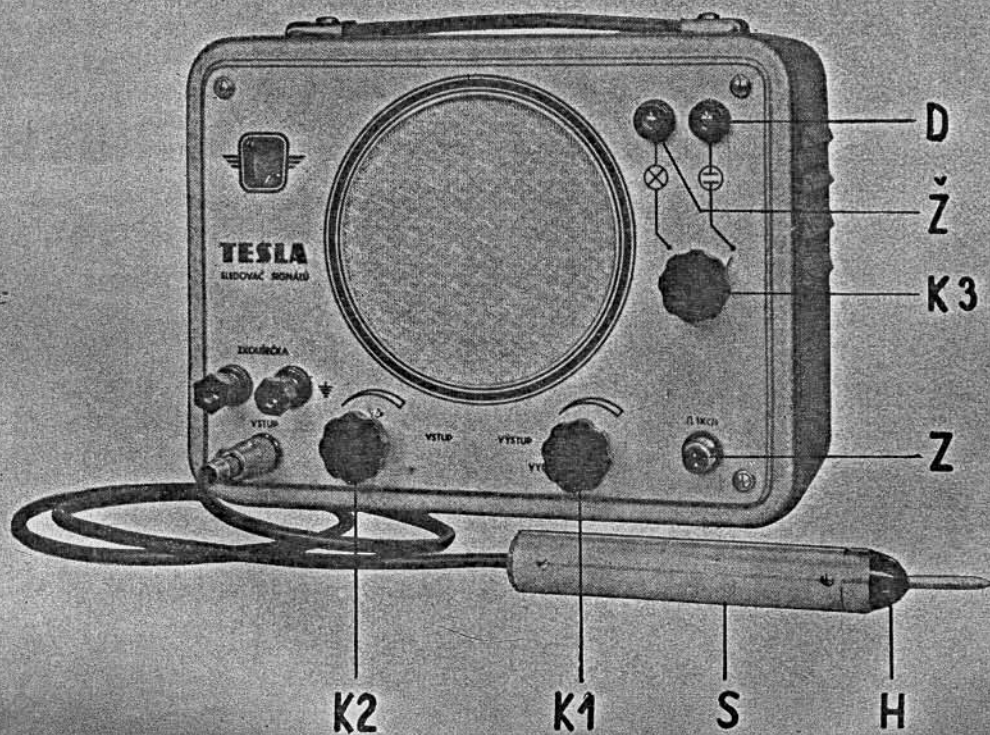

Fig. 1
- a) A three-stage A. F. amplifier equipped with an input probe, a visual indicator and a loudspeaker. The amplifier is fitted with the electronic tubes 6CC41, 6L31 and a visual indicator EM81. The sensitivity is continuously controllable with the input divider K2 (R6). The input probe of the signal tracer can be switched to A. F. or R. F. by rotating its head H (Fig. 1). When it is switched to A. F. (this position is marked with a dot), an RC network is connected to the input of the tracer; when it is switched to R. F. (two dots), a diode detector fitted with a germanium diode is connected to the input. In the R. F. position, the probe operates within the range 100 kc/s to 200 Mc/s. The input capacitance of the probe is 21 pF. The maximum input voltage may be 250 V D. C. or 100 V R. M. S. The peak voltage of an A. C. superimposed on a D. C. component may reach maximum 400 V.